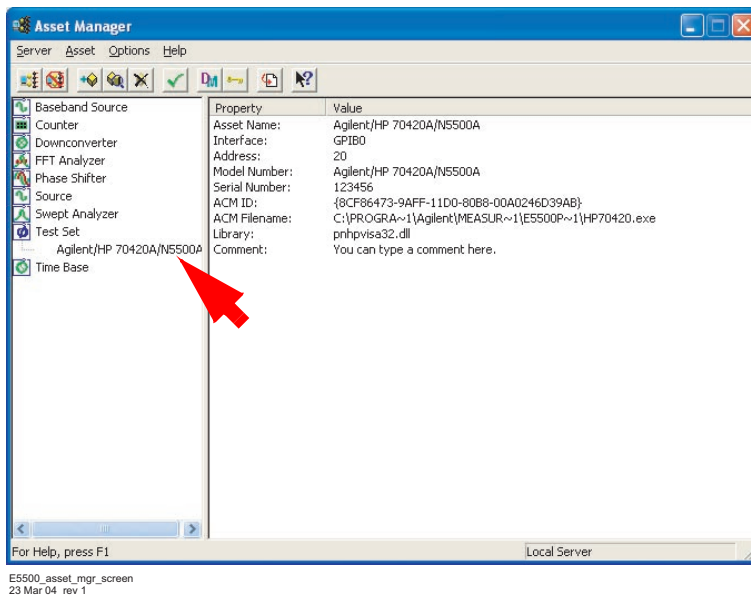

Figure 34 Asset Manager window
- 2 Double-Click on the desired instrument in the Asset Manager list (left pane). See Figure 34.